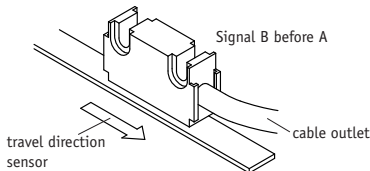

Fig. 6: Definition of counting direction
- **Sensor must be aligned correctly with respect to the counting direction (see fig. 6).**